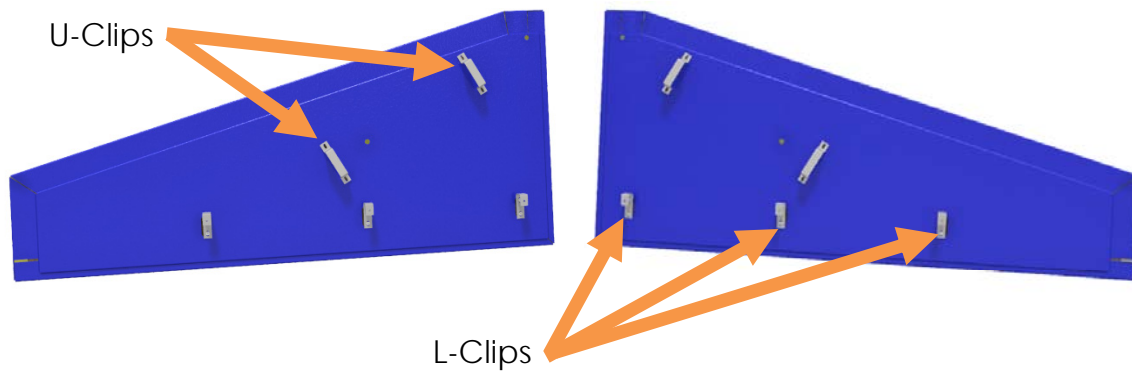

Figure 10-8: Install side pads to frame using straps and L-Clips
- a. Install L-clips to side pads as shown in Figure 10-8.